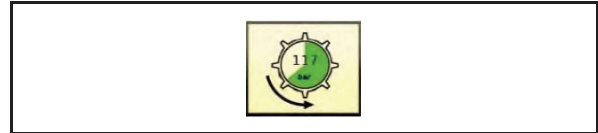

Fig. 170
- In the terminal, the circular area of the symbol "Pick-up milling cutter capacity" (Fig. 170) turns green depending on the load of the pick-up milling cutter and the digit increments.